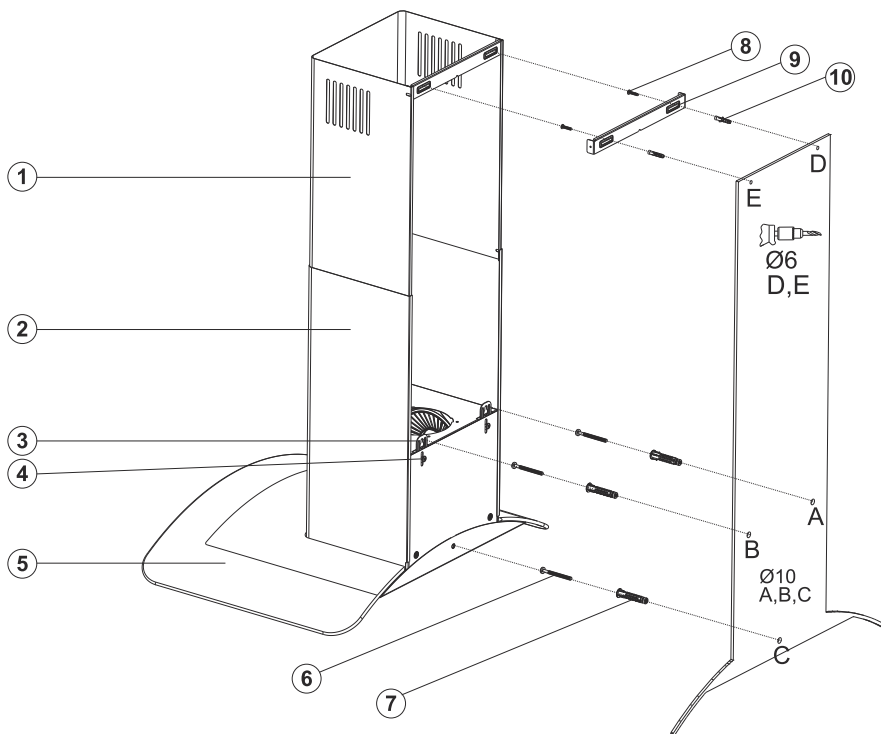

Fig. 11: ASSEMBLY INSTALLATION AND COMPONENTS
- Loosening the product hanging plate fixing screw (4) pull the hanging plates (3) upwards, and fix the hanging plate by re-tightening the fixing screw (Fig. 11).
- Affix the assembly pattern on the wall, at the specified height (See the minimum and maximum distances intended for the worktop, in the assembly pattern). Perforate points A, B and C.(Fig. 11)
- Insert Ø10mm wall plugs into the holes drilled as A, B, C, and D and screw down the screws at the points A + B, in such a way as to remain 5mm space between the screw head and the wall (Fig. 11)